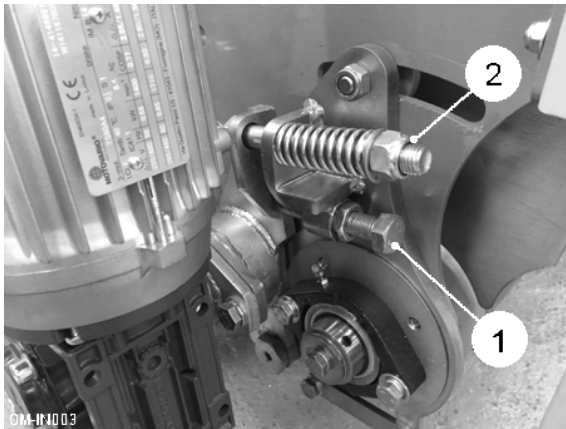

Fig 3
For effective haulm removal, the clod rollers will normally be adjusted to run approximately 1 to 2 mm away from the tip of the scrolls. The clod roller gap is set by adjusting the stop bolts (item 1, fig. 3) against the spring tension on the clod roller mounting plates. Spring tension is set on the spring nuts (item 2, fig. 3).